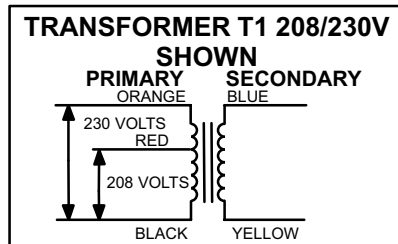

FIGURE 11
Transformer is rated at 70VA. 208/230 (P) voltage transformers use two primary voltage taps as shown in figure 11.